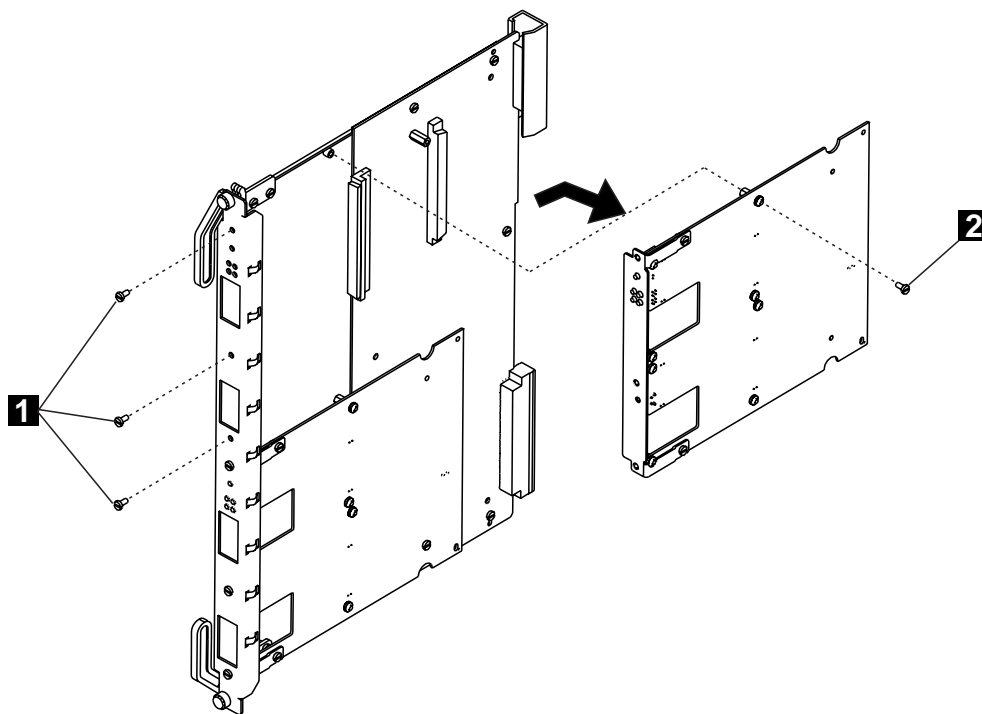

Figure 7. Removing the Motherboard
- **2** Detach the motherboard on which you want to install the I/O card by removing the four screws (**1** and **2** in Figure 7) that hold the motherboard to the module. Retain the screws for reattaching the motherboard.